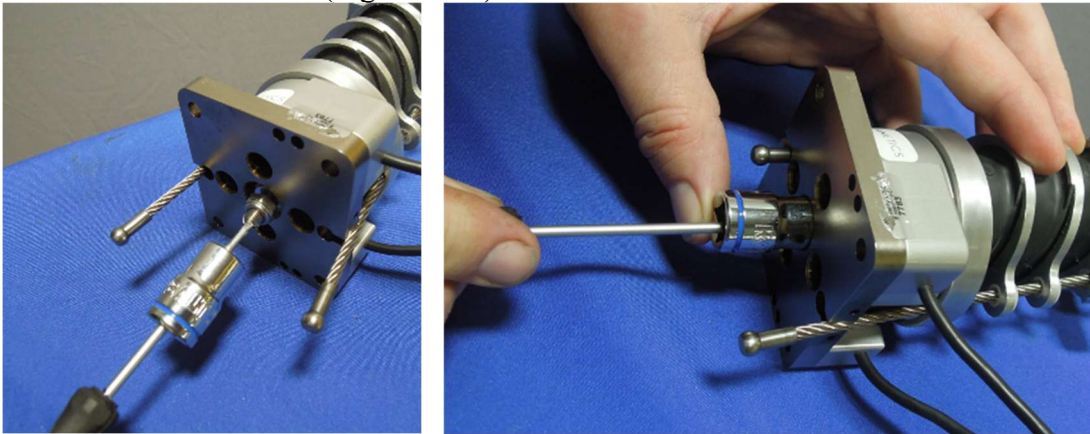

Figure 4-22. Loosen the center cable (474-2600) using a flat head screwdriver and a shallow M6 socket
4.2.12 Loosen the center cable (474-2600) using a flat head screwdriver and a shallow 10mm socket (Figure 4-22). Remove the M6 hex nut and washer.